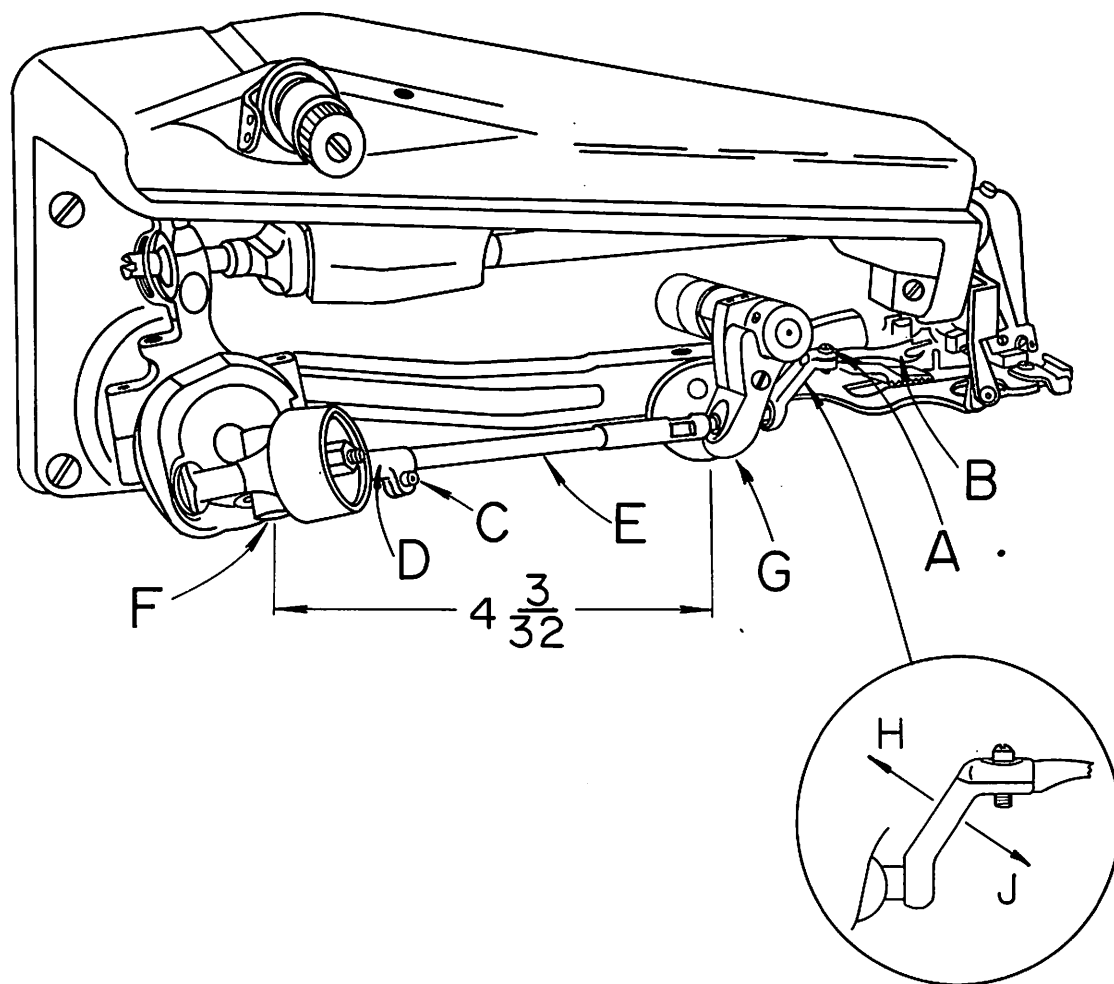

FIGURE 6
1. Should it become necessary to replace the looper (item "B" in Figure 6), loosen the looper clamp screw (item "A" in Figure 6) and remove the old looper. Because of the precise fit of the looper in the looper rod it may be necessary to exert a moderate amount of force to pull the looper out. Insert the new looper into the end of the rod as far as it will go before bottoming on the looper shoulder.
3. To adjust the looper so that the timing checks out as noted in paragraph 2, it may be rotated within its clamp by a limited amount. This adjustment should be made with the looper clamp screw (item "A" in Figure 6) loosened, and the looper bottomed against its shoulder. Do not move the looper in or out, and do not attempt to force the looper to turn beyond the limited amount of travel available.
4. If the adjustment described in paragraph 3 is insufficient to provide the correct timing, it will be necessary to turn the looper rod (item "E" in Figure 6) itself. This may be accomplished by loosening with looper rod clamp screw (item "C" in Figure 6). The rod is then free to turn in the looper rod fork (item "D" in Figure 6). It will normally be necessary to make only a very small adjustment in order to get the looper into the correct rotational position for proper timing. If, for any reason, the rod has been removed or the basic setting of the looper rod has been disturbed by a large amount, it may be reset by noting that the distance from the center of the looper rod fork pin (item "F" in Figure 6) to the rear face of the looper rod ball (item "G" in Figure 6) is normally 4 & 3/32 inches (104mm) (refer to Figure 6). If the rod is set to this dimension then only minor adjustment will be required to bring the looper into the correct timing position. Note that this dimension is merely a guide to assist in setting a rod and variations may be expected from machine to machine.
For adjustment, refer to insert illustration (Figure 6). To widen looper sweep, flex or bend looper crank in direction of arrow "H".